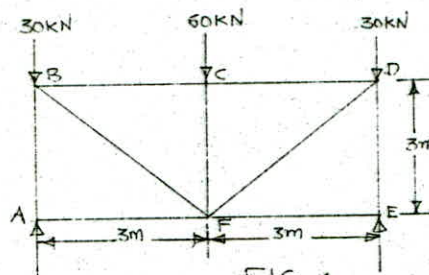

FIG. 4
- (B) The internal and external diameters of a hollow shaft are 200mm and 250mm respectively. It is transmitting power at 120rpm. The maximum torque is 20% more than the mean torque. Find the power transmitted by the shaft if the shear stress is not to exceed 70N/mm^2 . 12
25. (A) Determine the magnitude and nature of forces in the members of truss shown in Figure 4 by method of joints. 12